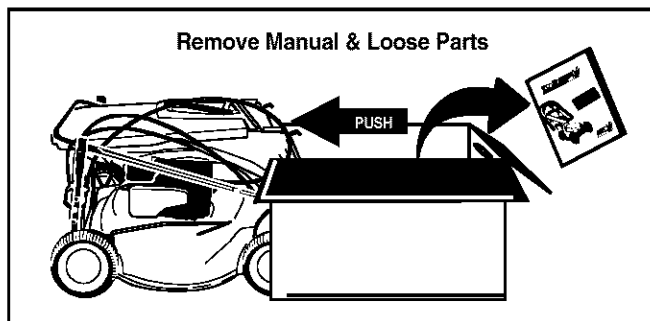

Figure 1
- Roll or slide unit out of carton and check carton thoroughly for loose parts. See Figure 1.